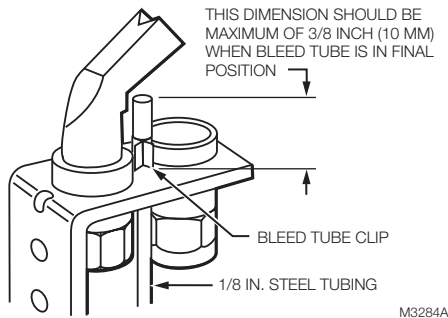

Fig. 6. Install bleed gas tubing.
2. Push clip into place. See Fig. 6.